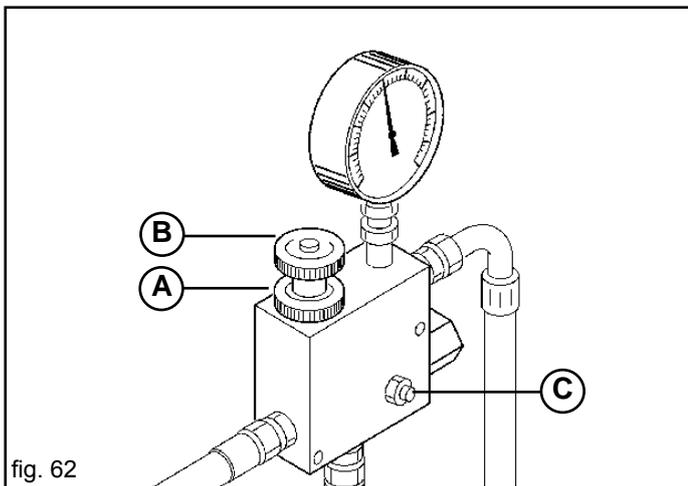

fig. 62
In tractors with a variable flow rate pump (closed hydraulic circuit), equipped with oil flow rate regulator, open the three-way regulator completely (B Fig. 62) and, starting with a low oil flow rate, gradually open the internal regulator of the tractor circuit until the required pressure is reached as shown by the pressure gauge (C Fig. 61).
If you wish to increase the number of revolutions of the fan for distributing heavier seeds, carefully proceed as follows (Fig. 62):
- a) loosen the handwheel (A Fig. 62);
- b) rotate the handwheel (B Fig. 62) clockwise or anticlockwise to reduce or increase pressure and adjust the number of revolutions of the blower accordingly.
**It is strictly forbidden to touch act on the dowel (C Fig. 62) for any reason, as this would unset the system and could lead to the motor, the pump or the fan.**